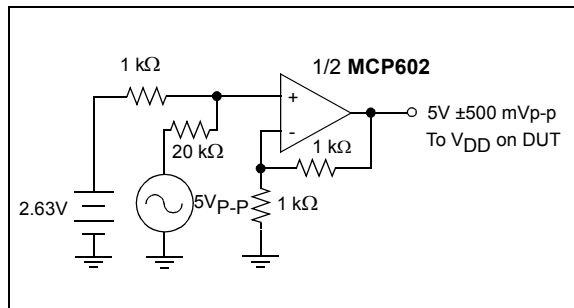

FIGURE 1-4: Power Supply Sensitivity Test Circuit (PSRR).
- 4: $V_{DD} = 5V$ DC $\pm 500 mV_{P-P} @ 1 kHz$, see test circuit Figure 1-4.
Note 4: $V_{DD} = 5V DC \pm 500 mV_{P-P} @ 1 kHz$, see test circuit Figure 1-4.
- 4: $V_{DD} = 5V DC \pm 500 mV_{P-P} @ 1 kHz$, see test circuit Figure 1-4.